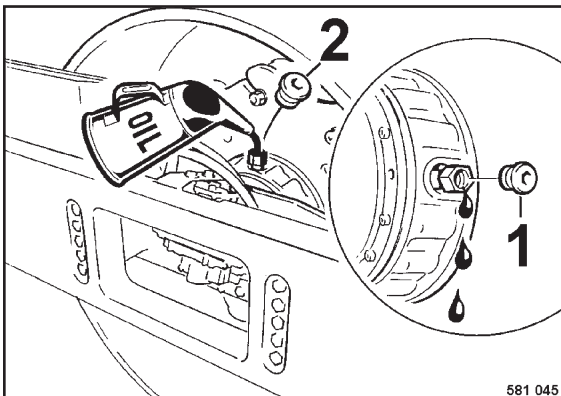

Fig. 134
- Once all oil has been drained off move the drum, until the oil filler plug 2 (Fig. 134) is in top position and the drain and level inspection plug (1) is in horizontal position.